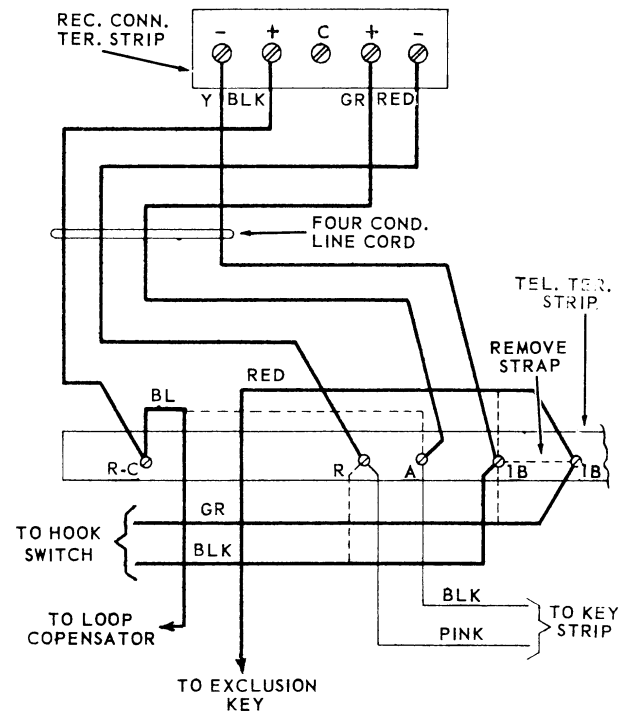

Fig. 6. 1A1 & 10A1 Modifications of Type 86 Key Telephone.
3.06 Modify the 86 telephone set with 1A1 and 10A1 wiring per Fig.6.